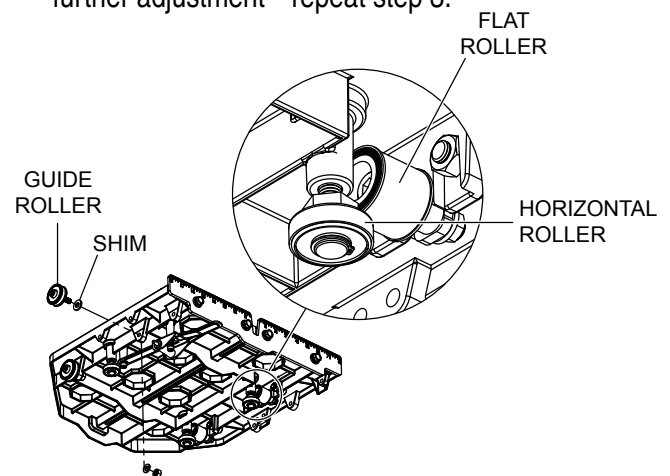

Figure 26. Add Shims
3. If the table shifts to the right as it travels away from the user, a shim needs to be added to the guide roller furthest from the ruler guide. On the other hand, if the table shifts to the left, a shim needs to be added to the guide roller closest to the ruler guide. Remove the appropriate guide roller to insert a shim between the roller and table, then reattach. See Figure 26. Depending on the severity of the shift, more than one shim may be required.